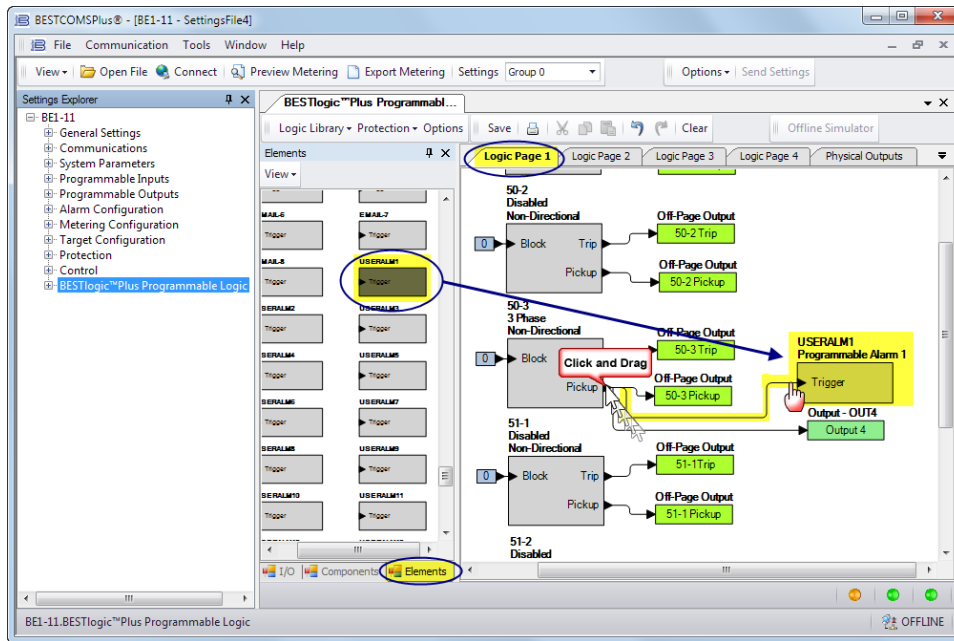

Figure 2-17. BESTlogicPlus Programming User Alarm 1
Step 11: In this step, the Pickup output of the 50-3 element is connected to User Alarm 1. When the Pickup output of the 50-3 element is true, the label of the user alarm is displayed on the Alarms screen on the front-panel display and in the fault report and/or sequence of events report. The label is named in Step 13. Click the Logic Page 1 tab and then click the Elements tab at the bottom. Locate the User Alarm 1 element. Click and drag USERALM1 over to the logic diagram. Click on the Pickup output of the 50-3 element and drag to the input of USERALM1 to make a connection. Refer to Figure 2-17.